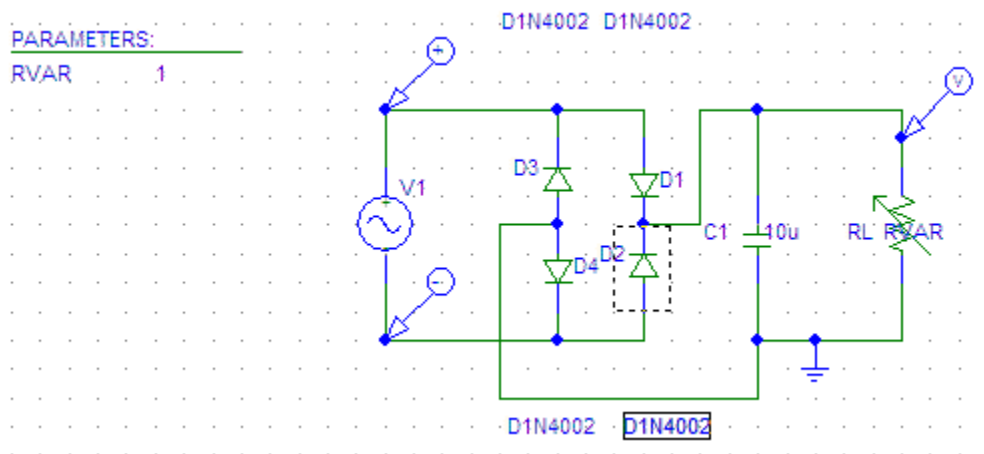

Figure 5-2
7. (25 points) Edit the half wave rectifier of question 6 to build the full wave bridge rectifier circuit shown in Fig 5-2.